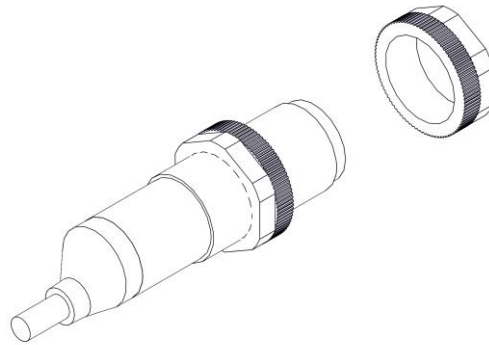

**Figure 5, Track to Lift Connection**
2. If not installed earlier, attach the rail adapter plate (049-006-359), which is included with the underlane track, to the end of the underlane track using two 1/4 lock washers (951-148-002) and 1/4-20 x 1/2 hex screws (809-849-085) (see Figure 5). Tighten securely.
12. Secure the adapter plate to the ball lift base plate studs using four 11/32-inch washers (948-722-111) and 5/16-18 nylon insert lock nuts (839-057-002) as shown in Figure 5. Track alignment is critical for the smooth transition of the ball to the lift. Adjust the track as necessary to ensure that the track is centered between the ball lift side plates. Shim the adapter plate as needed to obtain a smooth, level track joint.